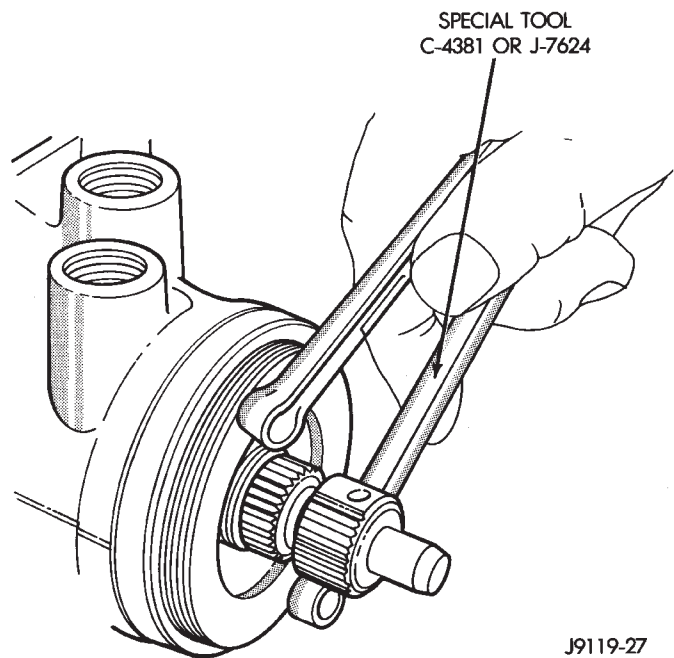

Fig. 18 Remove/Install Adjustment Plug
- (1) Remove adjuster plug lock nut from housing.
- (2) Remove adjuster plug from housing with Spanner Wrench C-4381 (J7624) (Fig. 18).